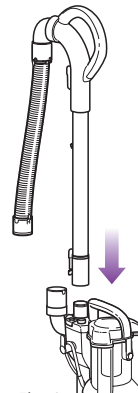

Fig. 2
- 3** Insert the handle with the extension wand into the top of the vacuum until secure. **(Fig. 2)**